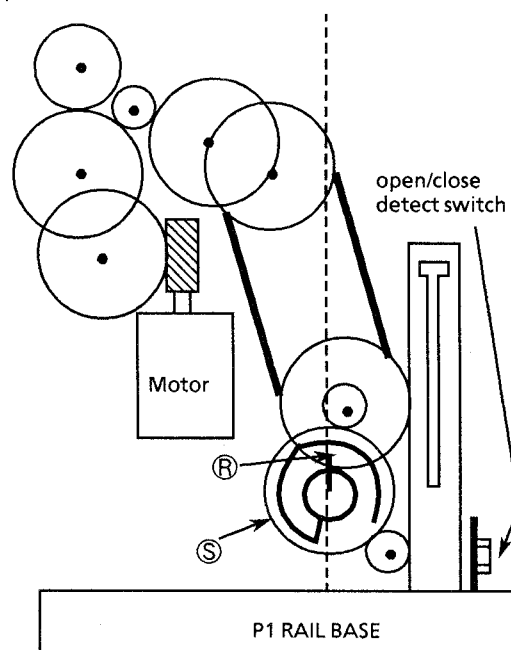

Fig 13
2. Rotate the gear ① clockwise a little.
5. Remove the screw fixing the open/close sw by inserting a thin driver from ① hole to remove the Front door indicator assembly.
6. Pull the P1 RAIL BASE by pulling up the hook ② slightly.
※ Install gear ⑤ so that part ④ shown in fig.13 is perpendicular to the P1 RAIL BASE.